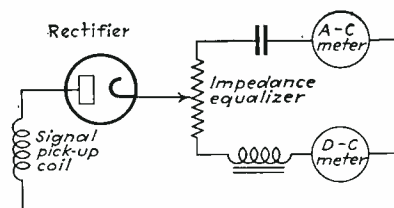
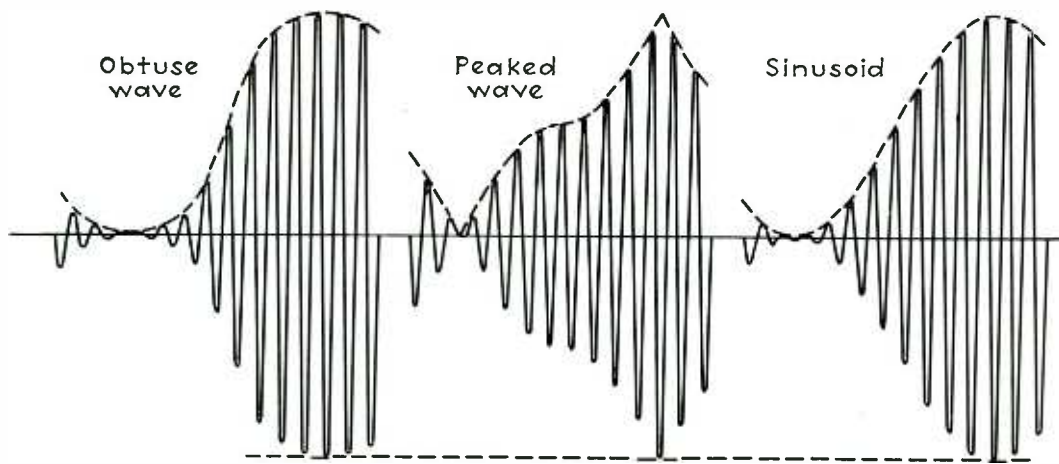
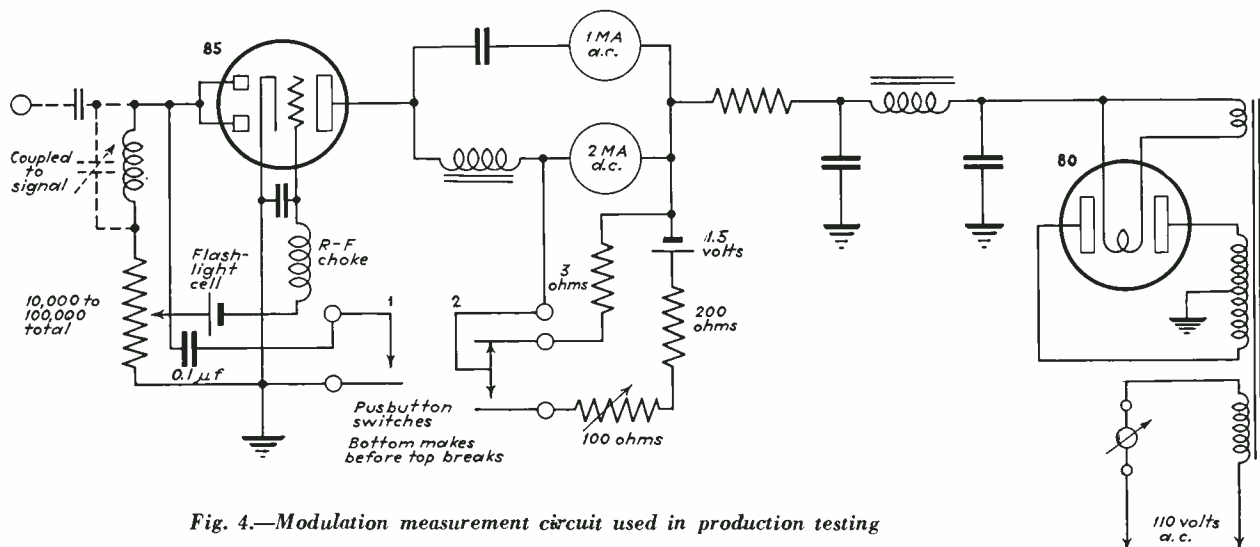

Fig. 2.—High energy meter.
Fig. 3.—Types of waveforms encountered
Fig. 4.—Modulation measurement circuit used in production testing
Rectifier type meters are widely used for evaluating radio receiver output. The indication of this type of meter is most nearly proportional to the average current, but the calibration is in terms of r.m.s. of current of sine wave form. Substituting a rectifier type meter in the circuit of Fig. 2 and again obtaining the modulation percentage from Eq. (2), we find that for a departure from sine wave modulation a different percentage will be indicated than with either a peak or r.m.s. meter. The percentage of modulation indicated by peak, r.m.s., and rectifier type meters on signals modulated as shown in Fig. 3 are tabulated below. The figures are approximate, and neglect the effects of frequency discrimination and non-linear rectification in the rectifier type meter. Greatly exaggerated
The circuit of Fig. 2 would be suitable only for high energy sources, such as transmitters. Even with the substitution of a rectifier type a-c meter, the load imposed on the measured circuit would in many instances be greater than could be tolerated. An r-f amplifier between the measured and measuring circuits would introduce a probability of large errors. The alternative is a linear d-c amplifier following the rectifier. A
circuit worked out by the writer in connection with the development of a production gain-testing system is diagrammed in Fig. 4.
Figure 3 shows the circuit used with a 6A6 twin triode for full-wave self-rectification. This circuit permits the use of a very rugged relay since a large current change may be produced when the switch is moved to Position 1. The elimination of relay chatter is also simplified by the full-wave rectification.
Another use of the limited impulse relay is shown in Fig. 4. A single tube is shown but a 6A6 twin triode would serve as in Fig. 3. The action is as follows: